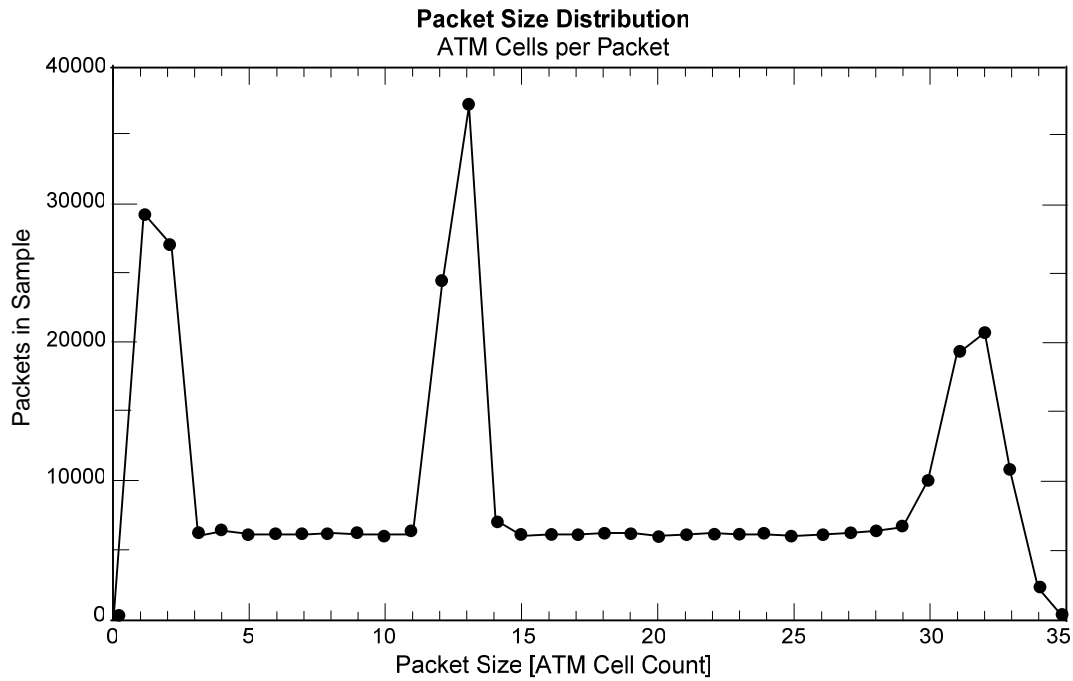

Figure 1-1. Typical Distribution of AAL5 Frame-sizes in ATM Cell Units.
**Figure** Figure 1-1 shows typical distribution of AAL5 frame-sizes in units of ATM cell units.